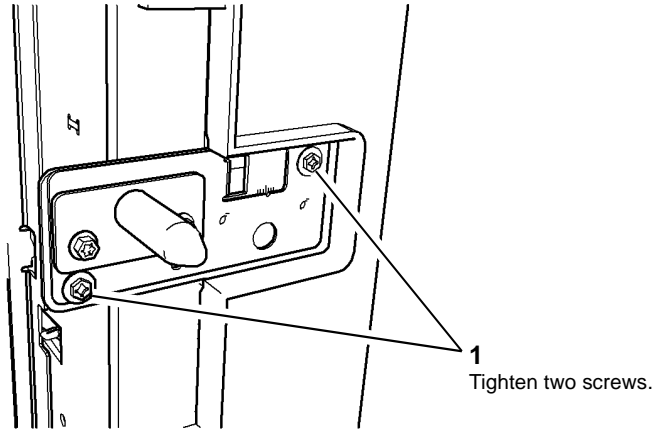

Figure 4 Secure the docking pin bracket
- Secure the docking pin bracket, Figure 4.